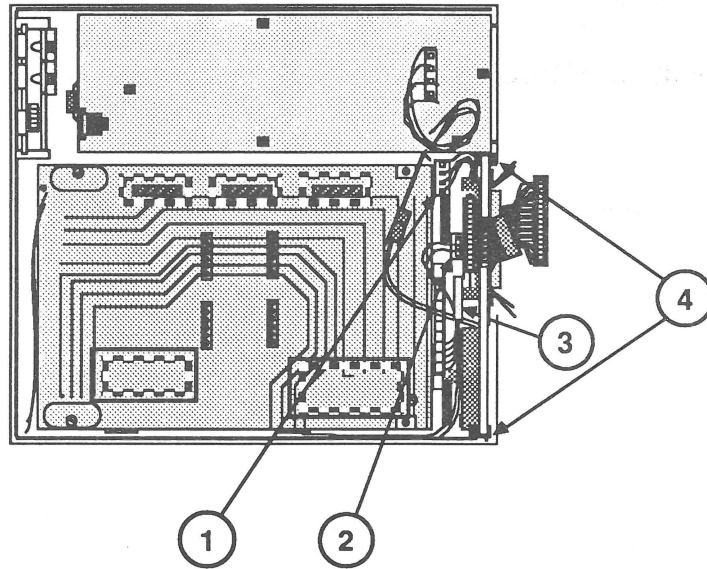

FIGURE 9
5. Disconnect the SCSI select switch cable from the SCSI select switch (Figure 9, #1).
6. Disconnect the audio cable (Figure 9, #2) from the rear audio board.
7. Push back the tab (Figure 9, #3) that secures the metal fan frame.
1. Slide the side edges of the metal fan frame into the **center** slots of the holding tabs located on the inside of the case bottom (Figure 9, #4).
2. Push back the tab (Figure 9, #3) and set the metal fan frame (with audio board, SCSI-device-to-case cable, SCSI select switch, and possibly a fan and fan cable attached) in place.
3. Connect the audio cable (Figure 9, #2) to the audio board.
4. Connect the SCSI select switch cable (Figure 9, #1).